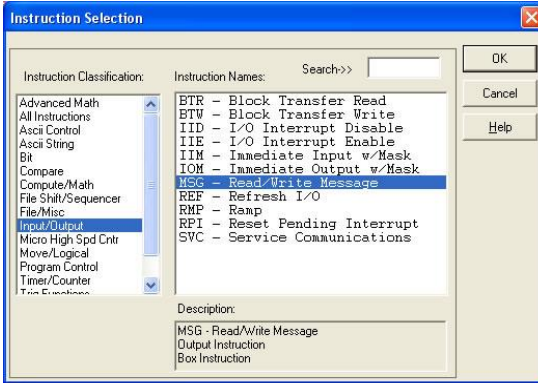

Figure 63: MSG Instruction Selection
- d) Select the “MSG” instruction from the “Input/Output” classification, then click OK. Refer to Figure 63.